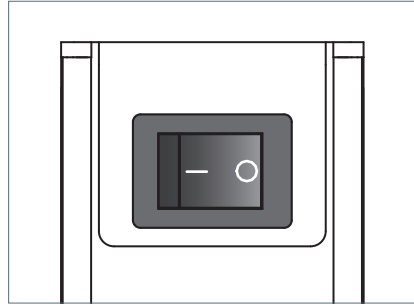

Fig. 4: Switch.
- ▶ Press the switch, see Fig. 4.